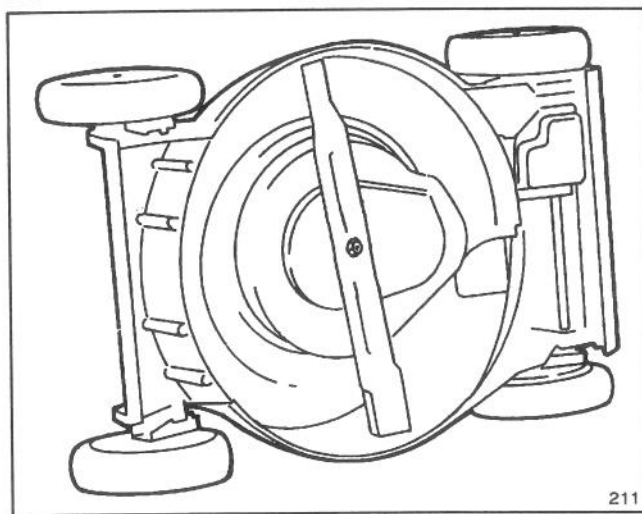

Figure 32
3. Tip mower on its right side (Fig. 32).